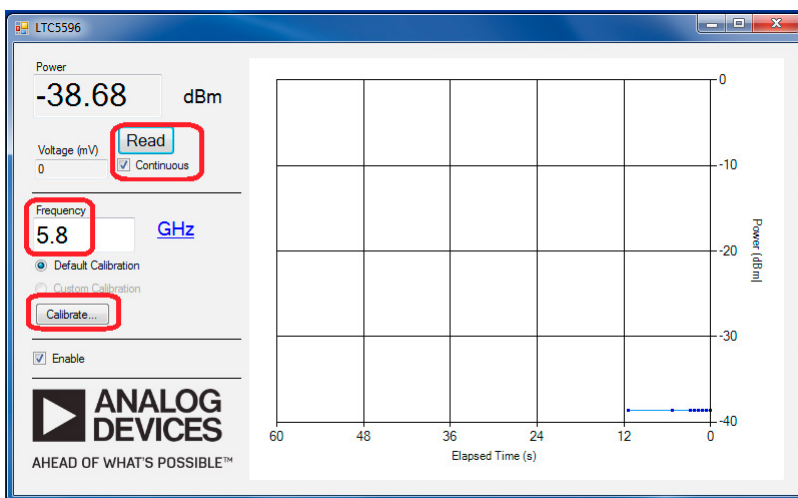

Figure 3. GUI
8. Open LTC5596 GUI, and set the frequency of signal to be measured. Push "READ" to measure RF power. Using the default calibration would be loading the nominal slope and intercept from LTC5596 data sheet values. See Figure 3.